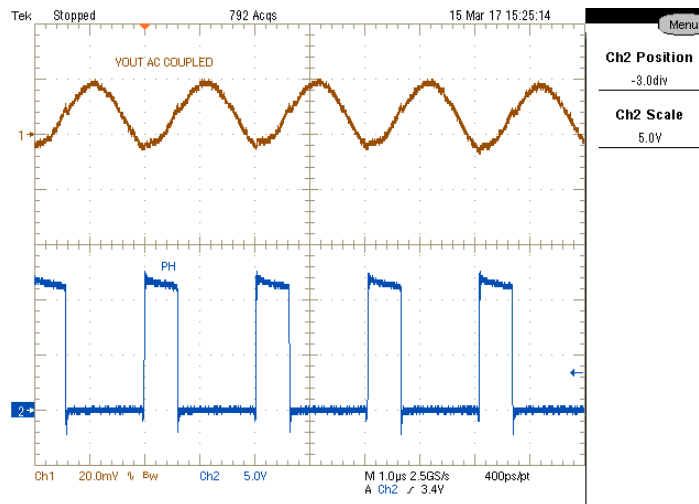

Figure 2-7. TPS54620EVM-374 Output Ripple
Figure 2-7 shows the TPS54620EVM-374 output voltage ripple. The output current is the rated full load of 6 A and $V_{IN} = 12$ V. The ripple voltage is measured directly across the output capacitors.
- Replaced Figure 2-7 9